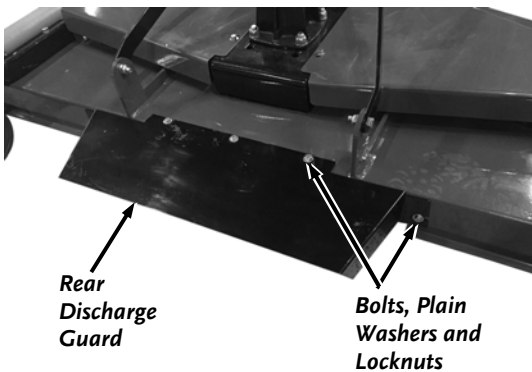

Figure 13
10. Install the Rear Discharge Guard to the Deck with five M8X20 Bolts (#40843), M8 Plain Washers (Bolt side and Locknut side), and M8 Locknuts using two 13mm Wrenches (**Figure 13**).